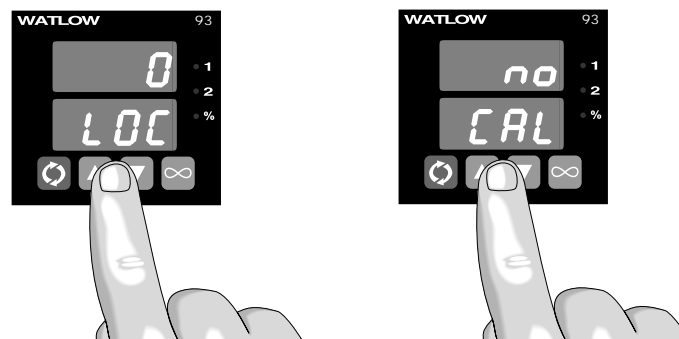

Figure A.3 - Entering the Calibration Menu.
3. Apply power to the controller and allow it to warm up for 15 minutes. **After warm-up** put the controller in the Calibration Menu. See Figure A.3. Select .
3. Apply power to the controller and allow it to warm up for 15 minutes. **After warm-up** put the controller in the menu. See Figure A.3. Select . Press the \rightarrow Advance key until the **440** prompt is displayed.
3. Apply power to the controller and allow it to warm up for 15 minutes. **After warm-up** put the controller in the menu. See Figure A.3. Select . Press the Advance key until **0.00** is displayed.
3. Apply power to the controller and allow it to warm up for 15 minutes. **After warm-up** put the controller in the menu. See Figure A.3. Select **YES**. Press the Advance key until **4** is displayed.
3. Apply power to the controller and allow it to warm up for 15 minutes. **After warm-up** put the controller in the `[CAL]` menu. See Figure A.3. Select **YES**. Press the **☉**Advance key until the 4A0 prompt is displayed.